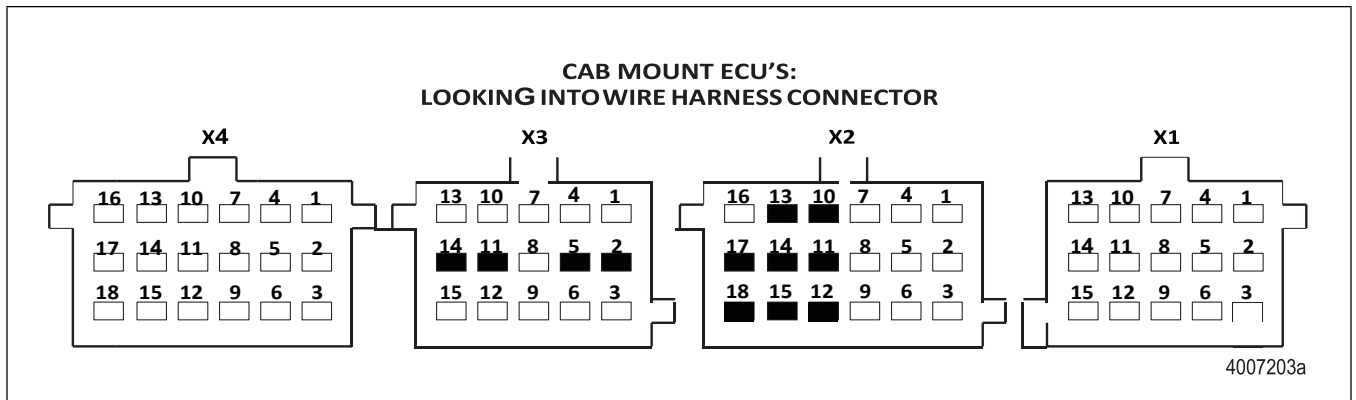
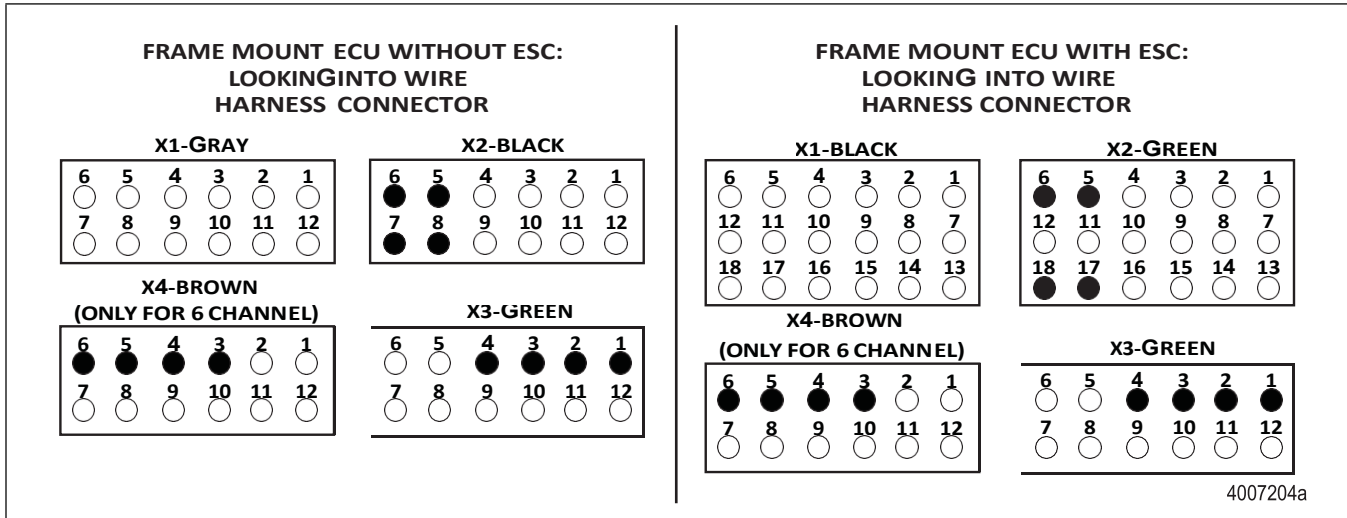

Figure 3.7
Figure 3.8
- Take all measurements at the ECU harness connector first to check sensor and harness together. Figure 3.7 and Figure 3.8.